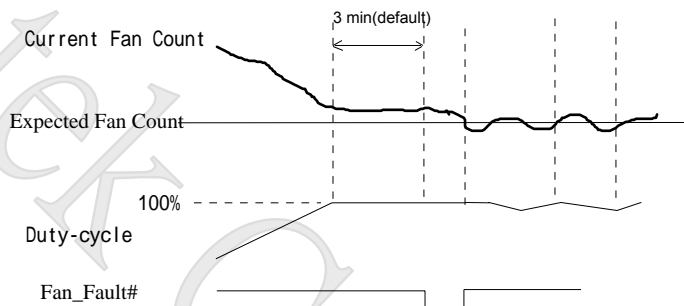

Figure 5-12
- (1). When PWM\_Duty reaches FFh, the fan speed count can't reach the fan expected count in time. (Figure 5-12)